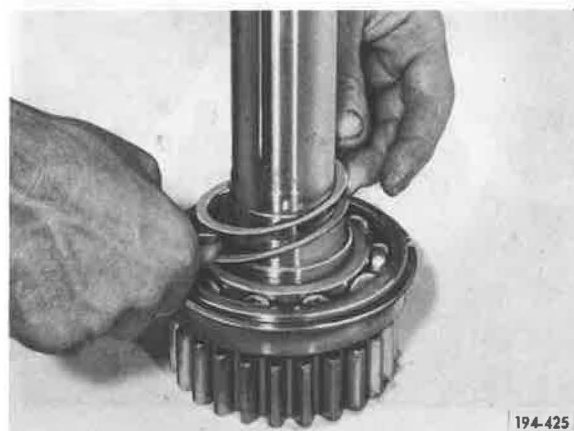

Figure 106. Removing Snap Ring
1. Remove bearing retaining spirollox snap ring. See Figure 106.